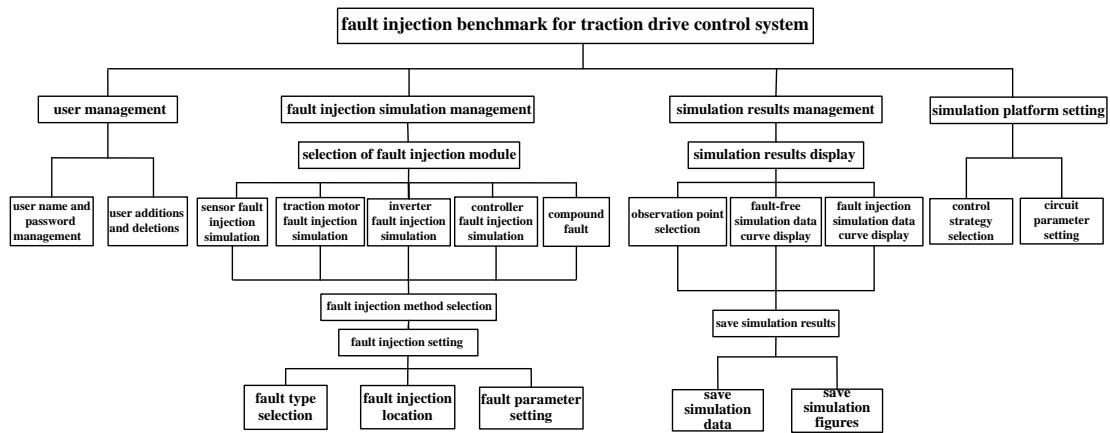

Fig .1 Basic functions of software schematic diagram
- 4) Simulation results management: The user select the observation point according to the need. After the fault injection simulation, display the simulation results curve in the form of a single window, zoom in or zoom out simulation waveform and other operations. For real-time simulation data of electrical parameters in selected observation points, data can be saved and displayed in the form of data and data graphs. The basic functional diagram of the software is shown in Fig. 1.